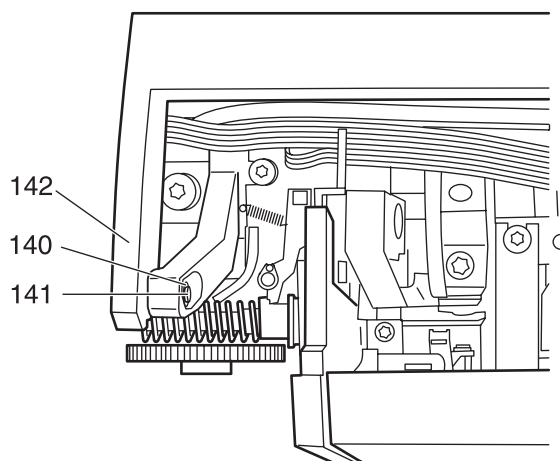

Fig. 86
- Remove retaining washer 140 from bolt 141 (fig. 86).
- Fit carrying handle 142 (fig. 86).